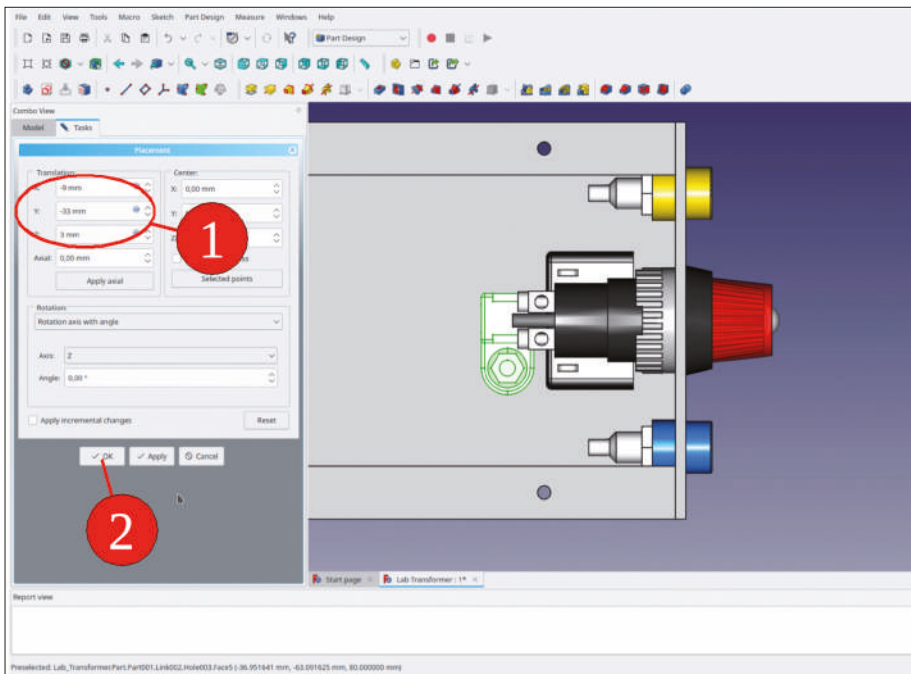

Figure 9-90
2. In the tree view, click the new anchor plate. In the property list, open the 'Placement' task window by clicking on the  button in the edit field of the placement property. Set the translations X = -9 mm, Y = -33 mm and Z = 3 mm (Figure 9-90). Close the task window with the OK button.